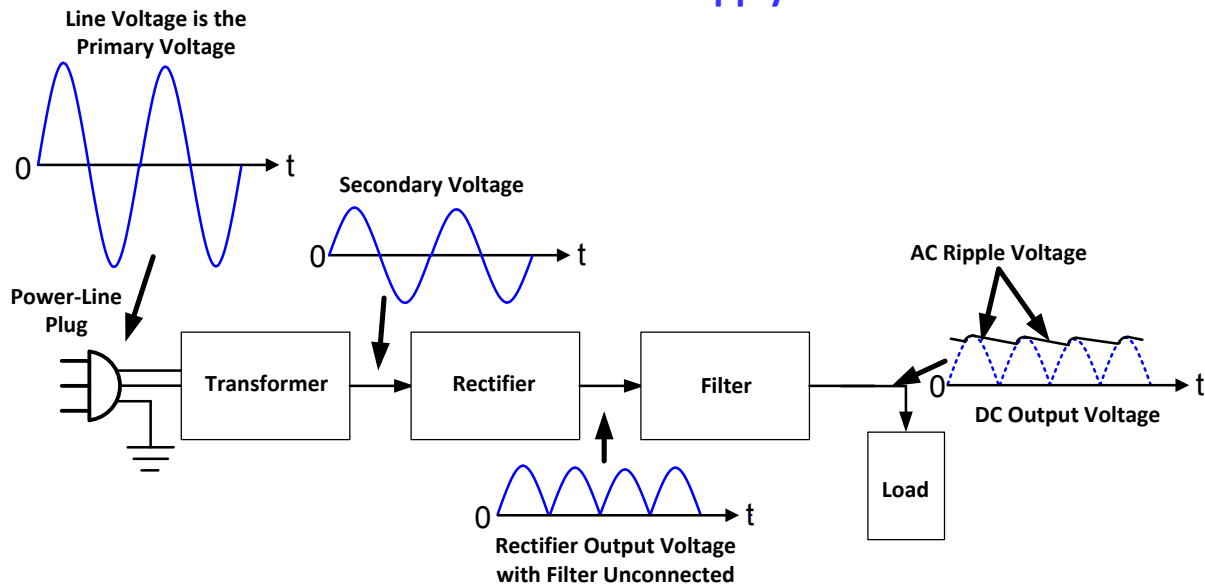
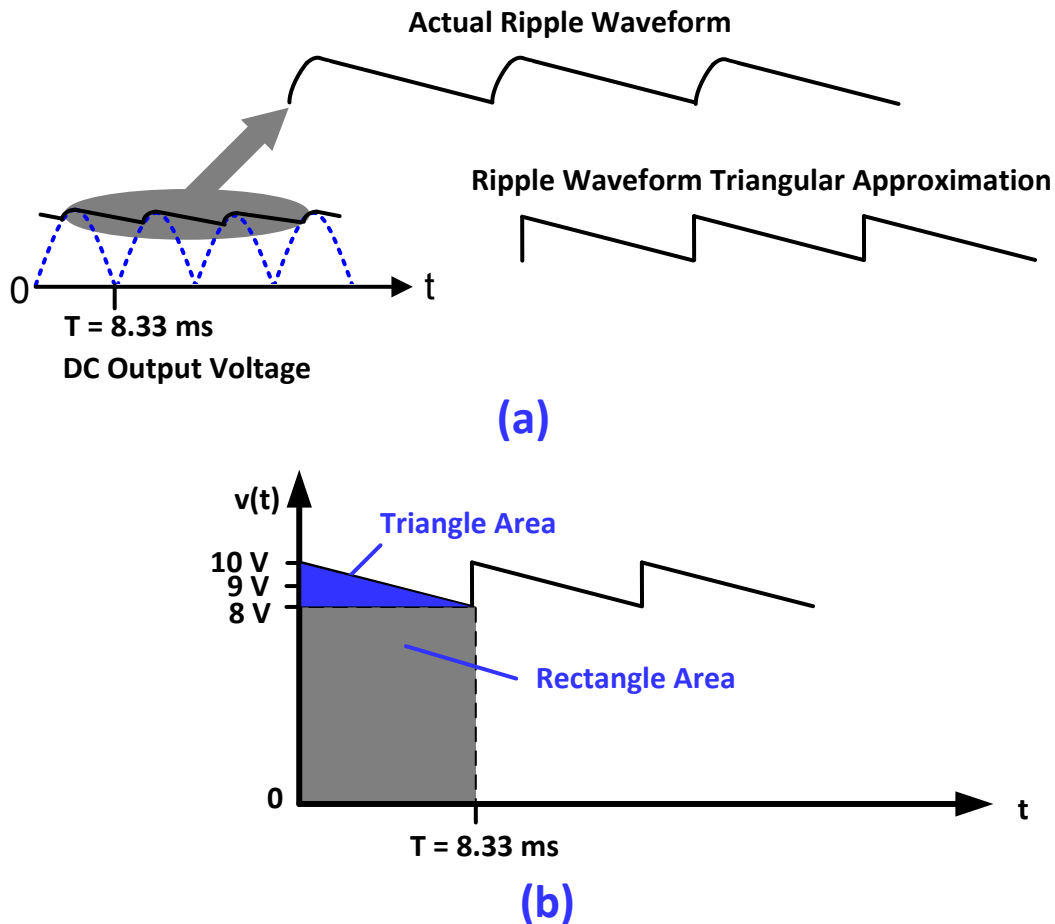
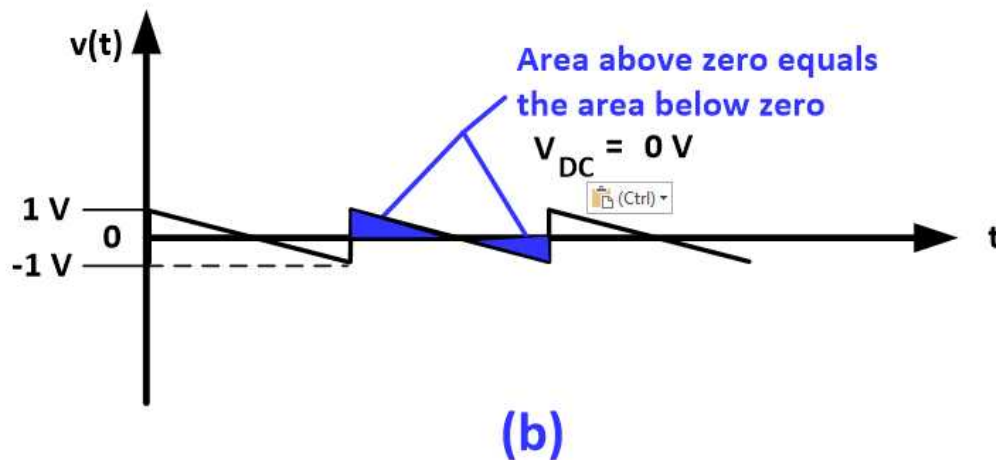

Figure 4-9.
Figure 4-10.
Figure 4-11 (continued).
The reason for this review is that it will help us understand the various ***nonsinusoidal*** waveforms we encounter in the study of DC power supplies. For instance, in Fig. 4-9 we see the block diagram of a line-operated (linear) DC power supply and some typical waveforms. (We will see how these waveforms are produced as we work through Chapter 4.)
Figure 4-9 shows the large sinusoidal voltage delivered by the power line plug to the primary winding of the transformer³². The transformer is evidently a step-down unit since the secondary voltage is sinusoidal with a smaller peak amplitude. Notice the output of the rectifier is always above the zero axis. Since its polarity is always positive it has a positive average. It is described as **pulsating DC**. (In general, that will be the waveform that will be developed if the output of the rectifier is *not* connected to the input of the filter.) The output of the filter is connected to the load. The DC output voltage will again have a positive average value. *The pulsating DC is shown in dashed lines for reference only.* The triangular-like variation is called the **(AC) ripple voltage**.
In Fig. 4-9 we indicated the filter's output has an AC ripple. Exactly how and why this occurs will be explained later. For now, we turn to Fig. 4-10(a). The period (T) of the pulsating DC is 8.33 ms. (This will be explained thoroughly in Section 4-7). The ripple waveform has been expanded to view it more clearly. We also see a triangular approximation of the ripple waveform.³³
In Fig. 4-10(b) we see the period is also 8.33 ms. Compare Fig. 4-10(a) with Fig. 4-10(b) and remember the period is taken between any two successive like points. Let's see how to determine the DC average value of the triangular waveform when it rides on a DC level as shown in Fig. 4-10(b). Consider Example 4-2.
Example 4-2. Find the DC value of the triangular waveform riding on a DC level as shown in Fig. 4-10(b).
Solution: In Fig. 4-10(b) we identify the period (T) to be 8.33 ms. The area under one cycle can be found easily by finding the area of the rectangle and adding it to the area of the triangle. Hence,
The average DC value (V_{DC}) of the total waveform in Fig. 4-10(b) is 9 V. Figure 4-11(a) demonstrates the DC value runs through the triangular waveform such that area above it is equal to the area below it. If the waveform is drawn as shown in Fig. 4-11(b), it is clear it is an AC waveform. *Again, since a pure AC waveform (like the sine wave and triangle wave) has an average value of zero, it contributes nothing to the overall average of the total waveform* like Fig. 4-10(b).
The triangle wave zero reference in Fig. 4-11(b) is obtained by subtracting the DC value of 9 V from each of the three voltage values indicated in Fig. 4-10(a).